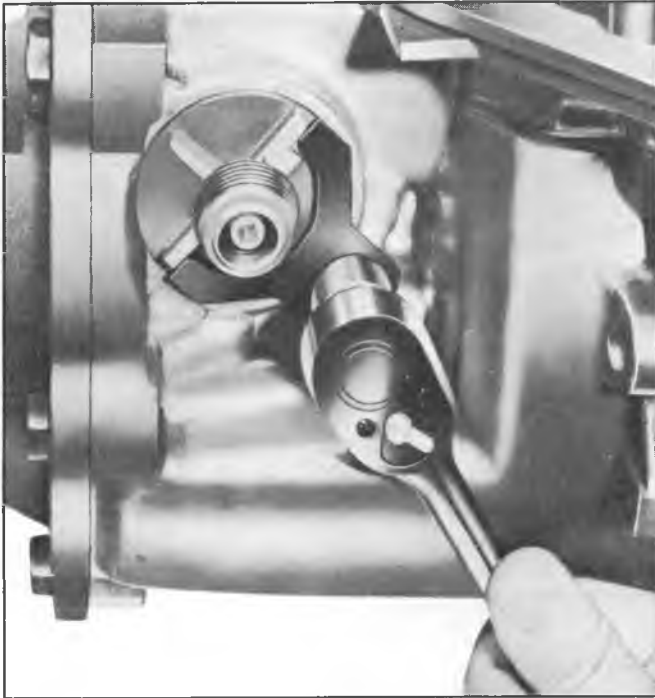

Fig. 6T--Removing Speedometer Driven Gear Retainer
3. Remove speedometer driven gear attaching screw and retainer (fig. 6T).